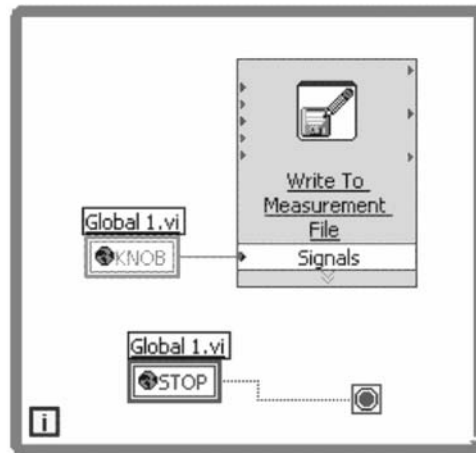

Figure P4.10 Block diagram.
**Solution** The block diagram to solve the problem is shown in Figure P4.10.